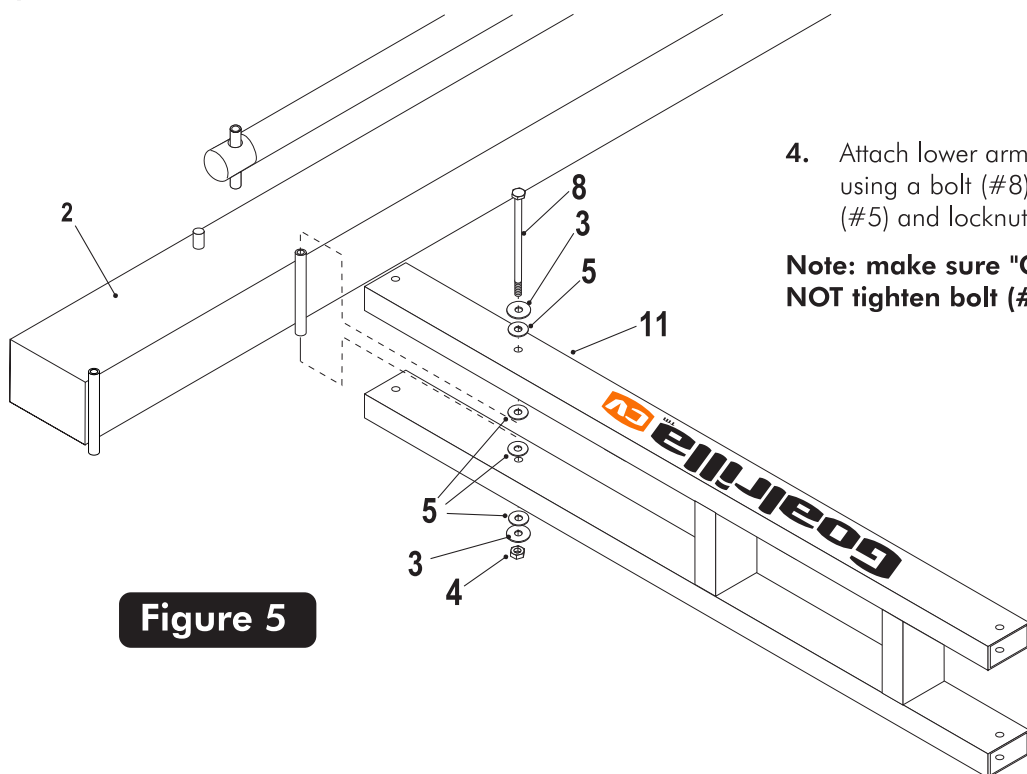

Figure 5
4. Attach lower arm (#11) to Pole (#2), as shown in Figure 5, using a bolt (#8), two flatwashers (#3), four plastic washers (#5) and locknut (#4).